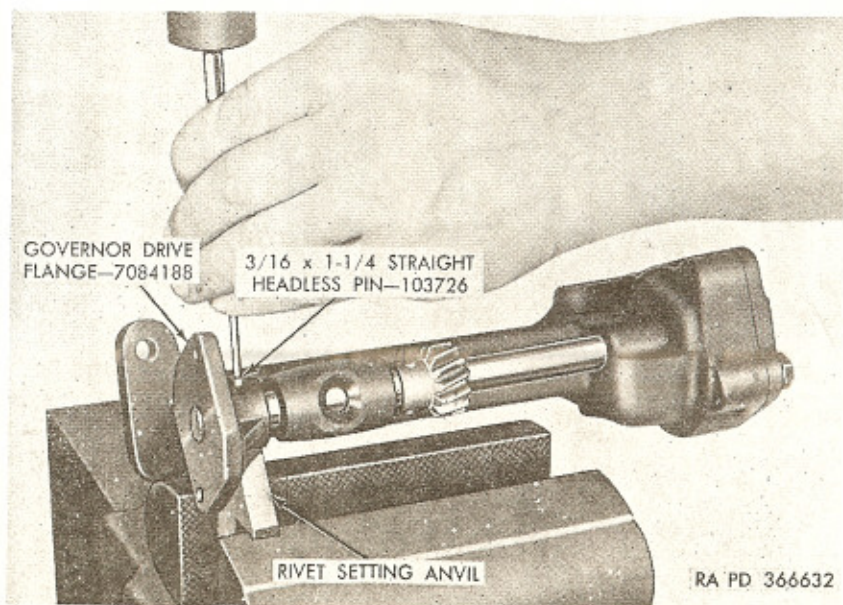
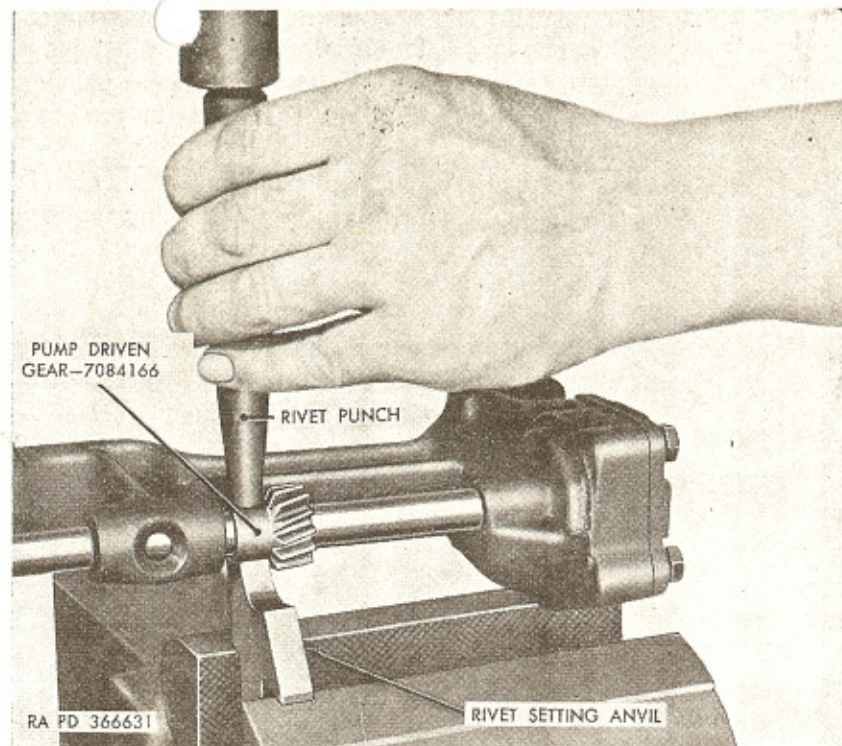

Figure 97. Using anvil—B7950326 to remove governor drive flange retaining pin.
Figure 98. Using anvil—B7950326 and punch—A7950325 to install governor driven gear retaining pin.
(1) Remove governor drive flange.
- (a) Grind off one end of pin (K) securing governor drive flange (L) on drive shaft (J).
- (b) While supporting drive flange hub on anvil—B7950326, center punch ground end of pin and drill down to shaft with $\frac{1}{8}$ -inch drill. Drive pin (fig. 97) out with punch. Remove drive flange from shaft.
- (c) While supporting driven gear hub on anvil—B7950326, center punch ground end of pin and drill down to shaft with $\frac{1}{8}$ -inch drill. Drive pin out with punch in same manner shown in figure 97 for driving pin out of drive flange.
- (d) Remove drive shaft (J) with rotor internal gear (D) from pump body (F), stripping pump driven gear (H) from shaft as shaft is removed.
(3) Install pump driven gear.
- (a) Insert drive shaft (J) through pump end of pump body (F) and place pump driven gear (H) on drive shaft with teeth toward pump end of body; then insert shaft through governor end of pump body.
- (b) Aline holes in pump driven gear hub with hole in shaft and install $\frac{3}{16}$ x $\frac{7}{8}$ straight headless pin (G) through gear hub and shaft.
- (c) While supporting driven gear hub on anvil—B7950326, use punch—A7950325 to peen ends of pin to fill holes in driven gear hub (fig. 98). Peened ends of pin must not project more than 0.078 inch above gear hub.
(4) Install governor drive flange.
- (a) Place governor drive flange (L) on drive shaft (J) with pin holes alined.
- (d) Install a $\frac{3}{16}$ x $1\frac{1}{4}$ straight headless pin (K) through holes in drive flange hub and shaft.
- (e) While supporting hub of drive flange on anvil—B7950326, use punch—A7950325 to peen ends of pin to fill holes in drive flange hub in same manner shown in figure 98 for peening driven gear pin. Peened ends of pin must not project more than 0.078 inch above the drive flange hub.
b. Model 301MG Transmission. If both the governor drive flange (L) and pump driven gear (H) require replacement, follow the same procedure described in a above. If only the pump driven gear (H) requires replacement, the governor drive flange (L) need not be removed; to replace pump driven gear only, proceed as instructed in (1) through (5) below.